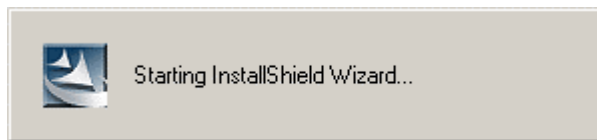

Figure 7-46: The InstallShield Wizard Starts
Step 7: The InstallShield Wizard starts (Figure 7-46).